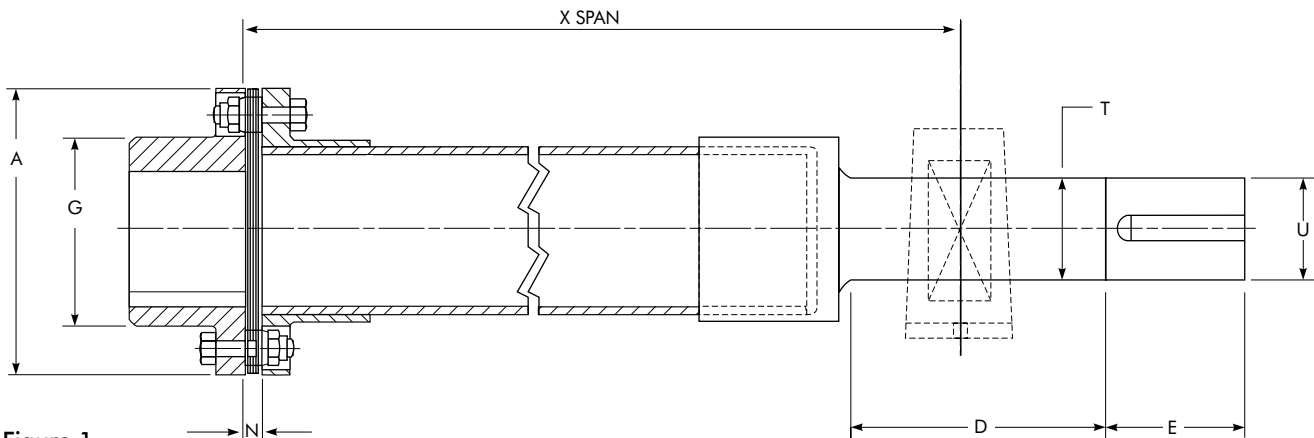

Figure 1
As a guide maximum and minimum values for dimension “N” are given. These dimensions are suggested for initial installation. Additional capacity is available to compensate for thermal and structural movement. Maximum axial capacity values for these couplings are also given. See Table 1 and Figure 1.
- B. The support bearing and housing is now mounted on the stub shaft. See Figure 1. Make sure it is positioned axially to give the desired “X” span. For mounting details, consult the bearing manufacturer’s installation instruction.